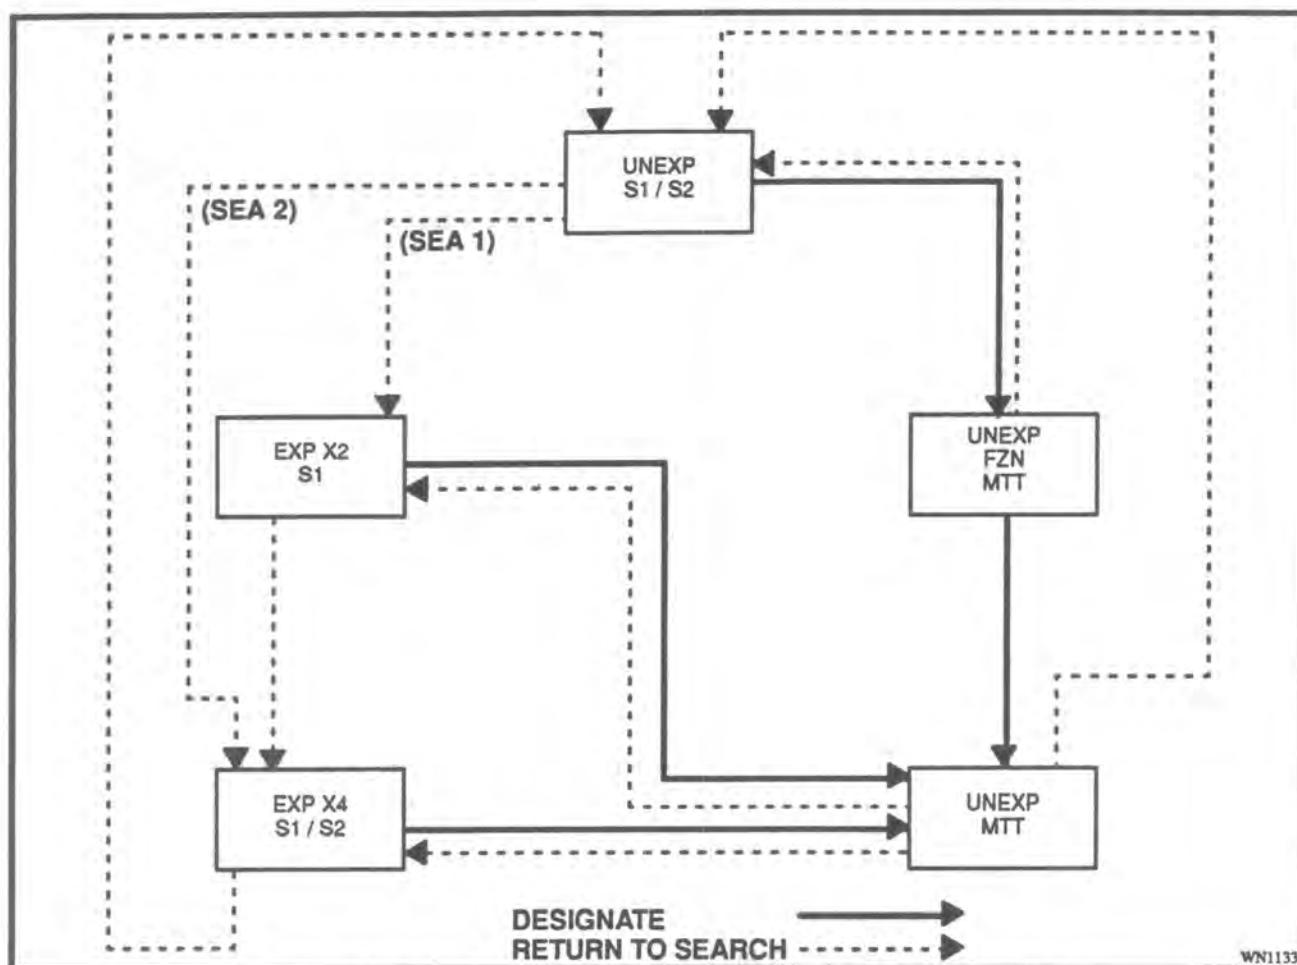

Figure 7-18 Sea Mode Return to Search/Designate Flow Chart
d. In the SEA Modes the selection of RT SRH has the following effects, as shown in Figure 7-18.